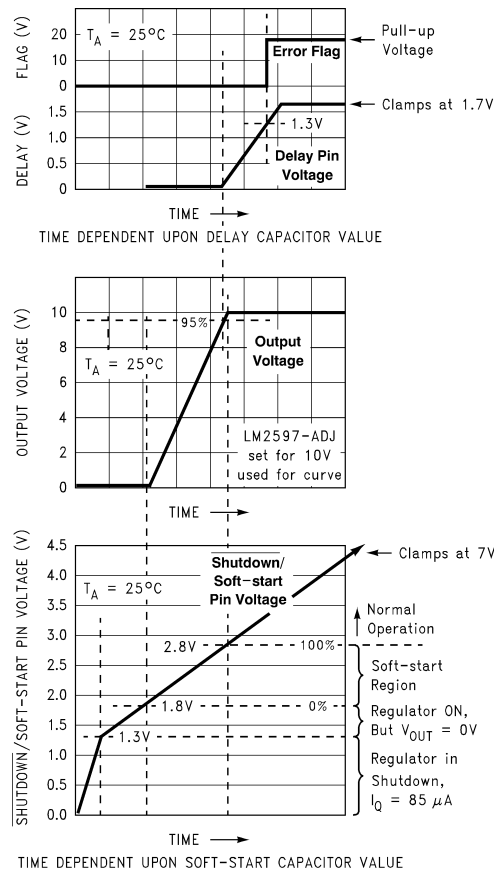
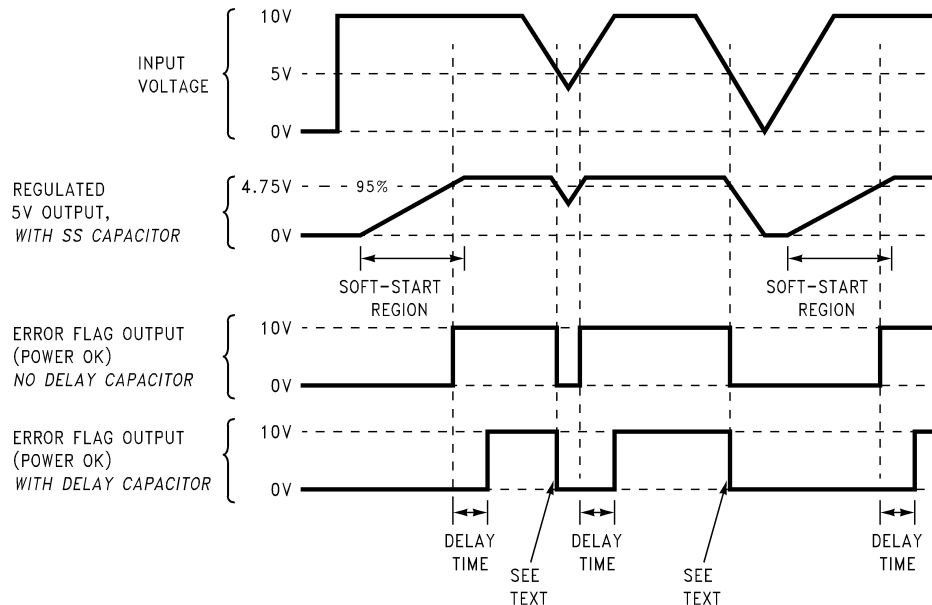

Figure 31. Soft-Start, Delay, Error, and Output
Figure 33. Timing Diagram for 5-V Output
A capacitor on this pin provides the regulator with a soft-start feature (slow start-up). When the DC input voltage is first applied to the regulator, or when the Shutdown/Soft-start pin is allowed to go high, a constant current (approximately 5  $\mu$ A begins charging this capacitor). As the capacitor voltage rises, the regulator goes through four operating regions (see the bottom curve in Figure 31).
3. Soft-start Region – When the  $\overline{SD/SS}$  pin voltage is between 1.8 V and 2.8 V (at 25°C), the regulator is in a soft-start condition. The switch (Pin 8) duty cycle initially starts out very low, with narrow pulses and gradually get wider as the capacitor  $\overline{SD/SS}$  pin ramps up towards 2.8 V. As the duty cycle increases, the output voltage also increases at a controlled ramp up. See the center curve in Figure 31. The input supply current requirement also starts out at a low level for the narrow pulses and ramp up in a controlled manner. This is a very useful feature in some switcher topologies that require large start-up currents (such as the inverting configuration) which can load down the input power supply.
The lower curve shown in Figure 31 shows the soft-start region from 0% to 100%. This is not the duty cycle percentage, but the output voltage percentage. Also, the soft-start voltage range has a negative temperature coefficient associated with it. See the soft-start curve in Electrical Characteristics.
Provides delay for the error flag output. See the upper curve in Figure 31, and also refer to timing diagrams in Figure 33. A capacitor on this pin provides a time delay between the time the regulated output voltage (when it is increasing in value) reaches 95% of the nominal output voltage, and the time the error flag output goes high. A 3- $\mu\text{A}$  constant current from the delay pin charges the delay capacitor resulting in a voltage ramp. When this voltage reaches a threshold of approximately 1.3 V, the open collector error flag output (or power OK) goes high. This signal can be used to indicate that the regulated output has reached the correct voltage and has stabilized.